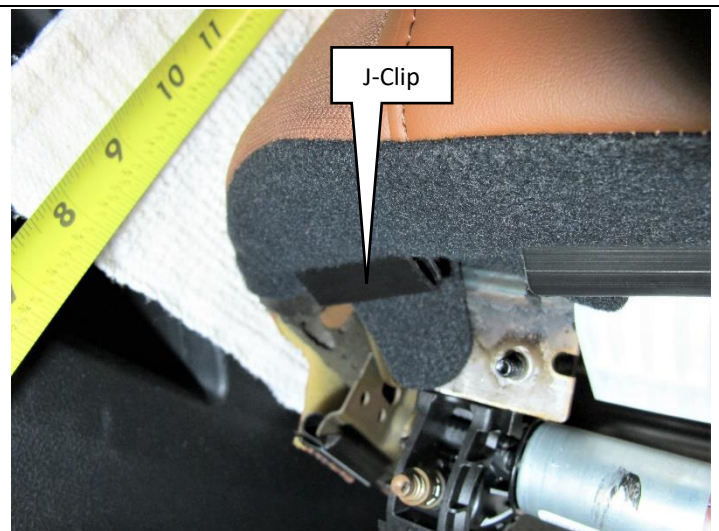

Figure 6
4. Locate the J-Clip under the front inboard corner of the seat (Figure 6).
7. Pull up at the J-clip location specified in Figures 6 and 7 (front inboard corner).